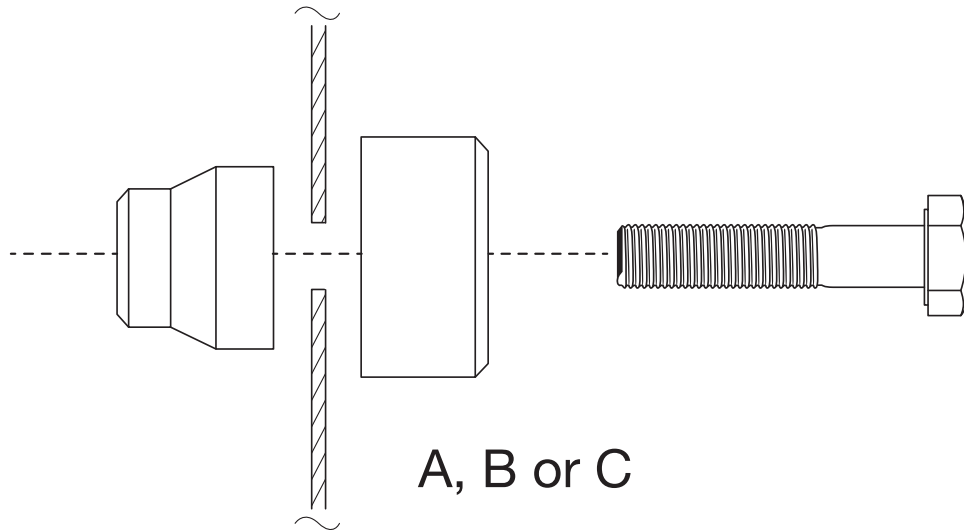

Figure 3
3. Choose the correct screw operated hole punch (A, B or C) for the specified hole size then refer to Figure 3 and assemble hole punch through the previously drilled pilot hole in the bumper panel.